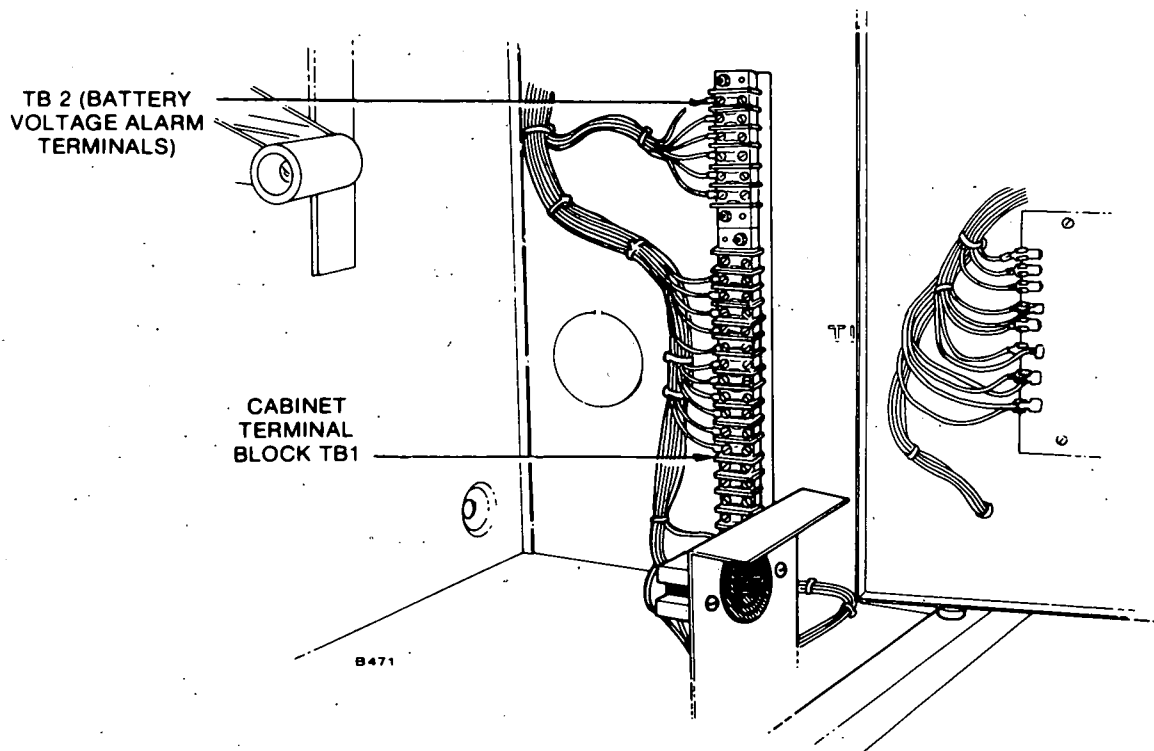

FIGURE 5. CABINET TERMINAL BLOCKS TB1 and TB2
- a. Remove terminal jumper located between terminals 4 and 5 of terminal strip TB1 (Figure 5).
6. **Transfer Inhibit Circuit:** To inhibit transfer of the automatic transfer switch by another automatic transfer switch (for paralleling systems, priority selection systems, etc.), remove the jumper between TB1-6 and TB1-7. Connect the wire leads from the external equipment to these two terminals. See Figure 5.
7. **Diesel Preheat Time Delay (if used):** If this delay is used for operation of glow plugs on three-wire start generator sets, connect a wire from terminal TB1-H in the automatic transfer switch (three-wire starting only) to terminal "H" on the generator set. Use number 16 wire for distances up to 100 feet or 31 metres (maximum of 0.5 ohm per line). See Figure 5.
8. **Onan Annunciator Connector for Overcrank (if used):** Connect a wire from terminal TB1-53 in the automatic transfer switch (three-wire starting only) to terminal 53 on the Onan annunciator panel (Figure 5). Use number 16 wire for distances up to 800 feet or 244 metres (maximum of 4 ohms per line).